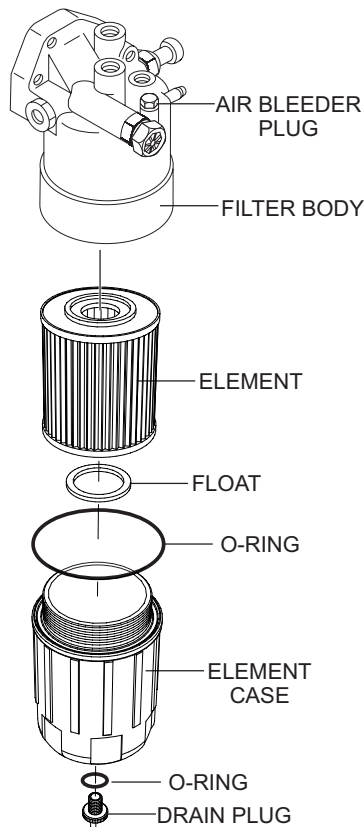

Figure 66. Fuel Filter Replacement
1. Using a **filter wrench**, remove the **element case** from the **fuel filter body** (Figure 66).
2. Wipe the inside of the **filter body** (Figure 66) with a clean cloth to remove any foreign matter or debris that may have accumulated.